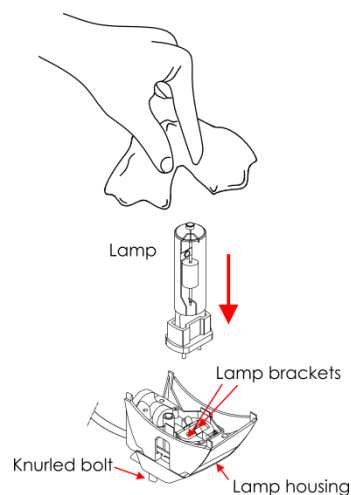

Fig. 05
- 04) Insert the lamp and fit it firmly within the lamp brackets (Fig.05).